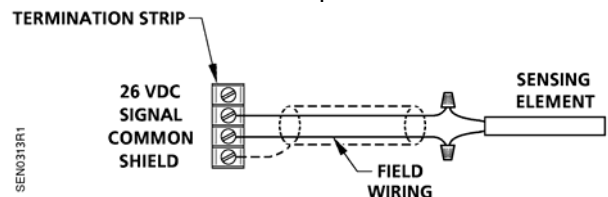

Figure 2. Wiring.
4. Connect the field wires to the appropriate controller. See Figure 2.